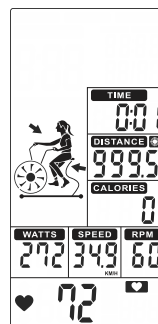

FIGURE 42
3. Preset DISTANCE value counts down, TIME, CALORIES, WATTS, SPEED, RPM start counting. (Figure 42)